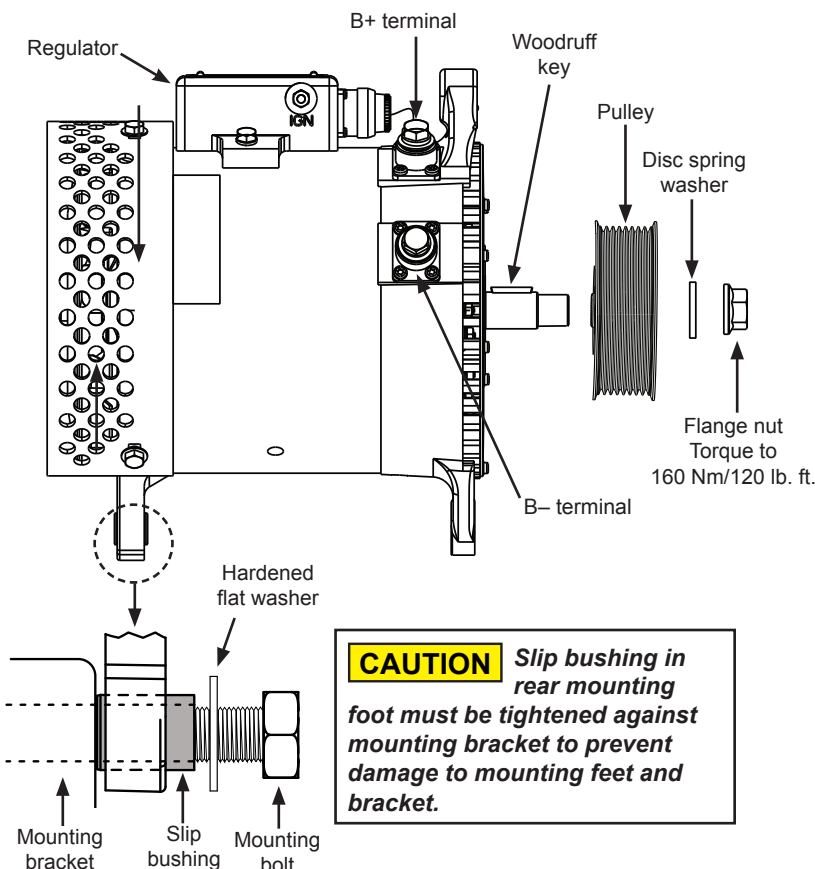

Figure 1: N1252 Alternator Connections
2. Install pulley, disc spring washer, and nut on shaft, in that order. See Figure 1. Torque pulley nut to 163 Nm/120 lb. ft.